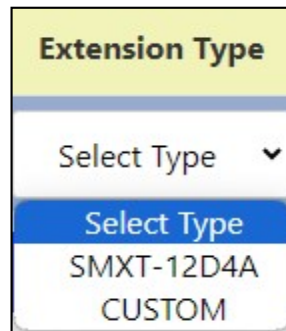

Figure 59: Dropdown Menu for Selecting Extension Type
- 1. Extension Type:** Select the type of device from the dropdown menu (e.g., SMXT-12D4A, Custom) as shown in Fig 59. This selection ensures that the system recognizes and configures the specific model or type of the Extension Device.